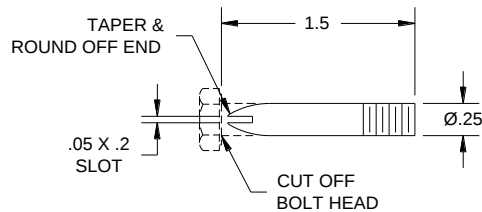

Figure 2. Alignment pin
- a. Install alignment pins in two aft mounting holes. Fabricate pins from AN4 bolts (see Figure 2).